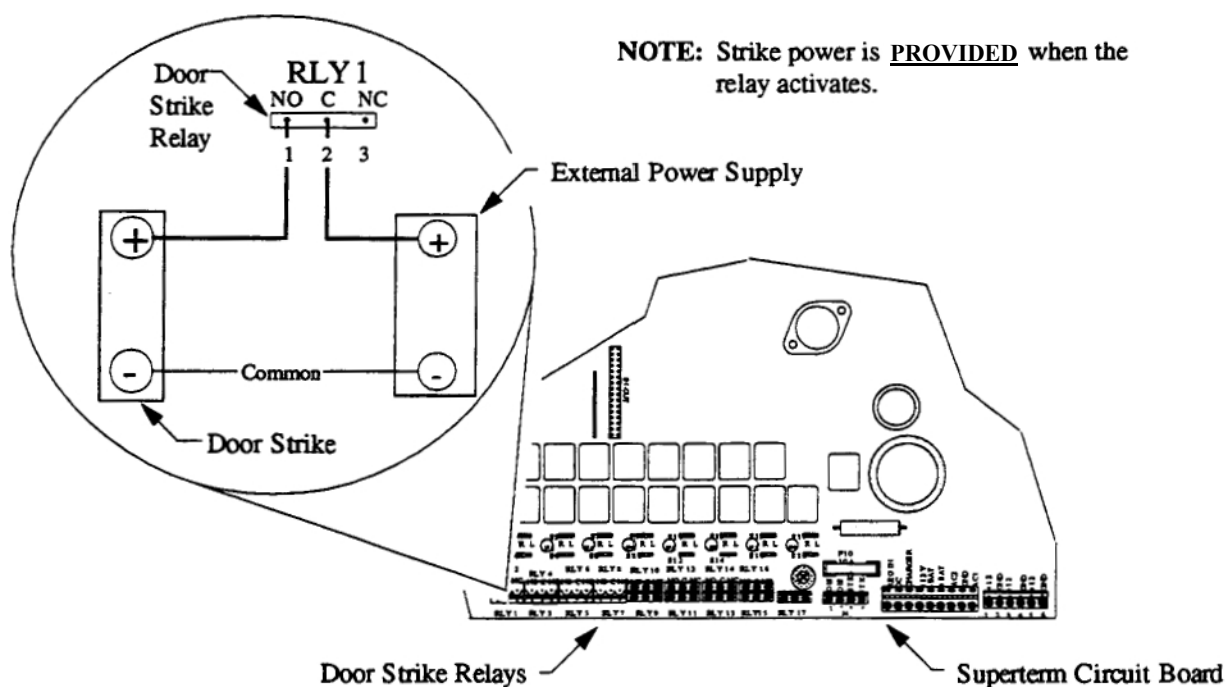

Figure 21 - **REMOTE** Power Door Strike Relay Connection - **Normally Open (NO)** Condition
Table 20 lists the connections between the RLY#x terminal strip and the door strike for a Normally Open (NO) relay condition (see Figure 21).